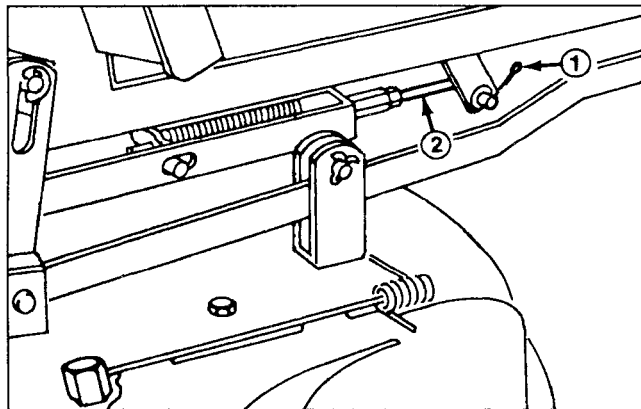

Figure 24
3. Remove cotter pin from adjustment rod and pull from pivot tube arm (Fig. 24).
2. Remove cotter pin from adjustment rod (Fig. 24).